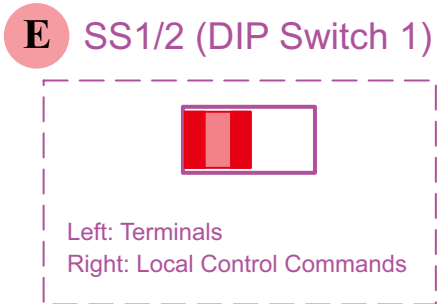

Figure 3 SS1/2 Position under Terminal Control
- 2. In Terminal Control Mode (set DIP switch SS1/2 to the left side, as shown in Figure 3 "SS1/2 Position under Terminal Control"):